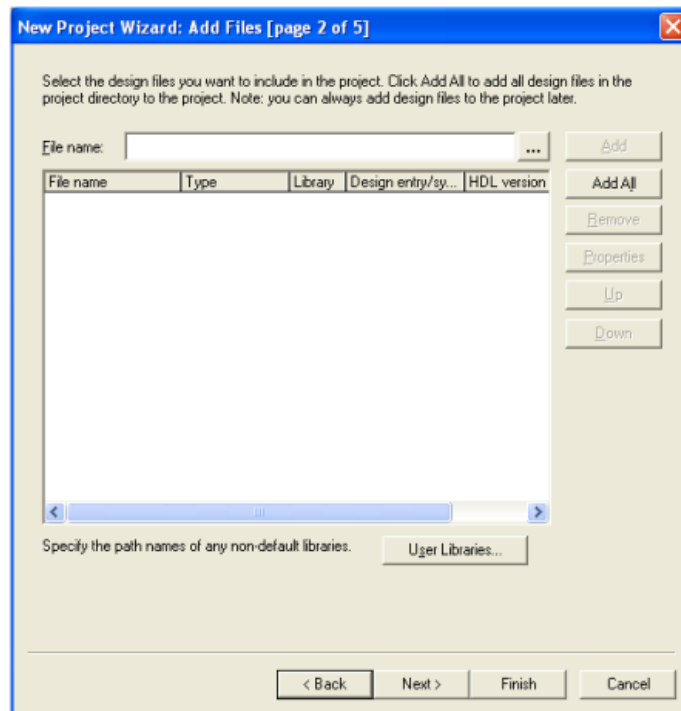

Figure 3: The wizard can include user specified design files.
4. The wizard reported in Figure 3 makes it easy to specify which existing files (if any) should be included in the project. Press the button ... and add the vhd files to your design and **Press Next**.
As we indicated when discussing Figure 3, you can tell Quartus II software which design files it should use as part of the current project. To see the list of files already included in the light project, select **Assignments > Settings** and click on the item Files. An alternative way of making this selection is to choose **Project > Add/Remove Files** in Project.